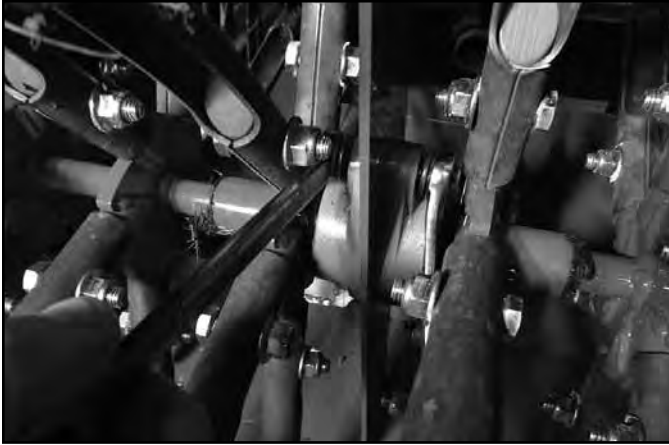

Fig. 149
11. Loosen the flange bearing bolts and remove the nuts (Fig. 149).